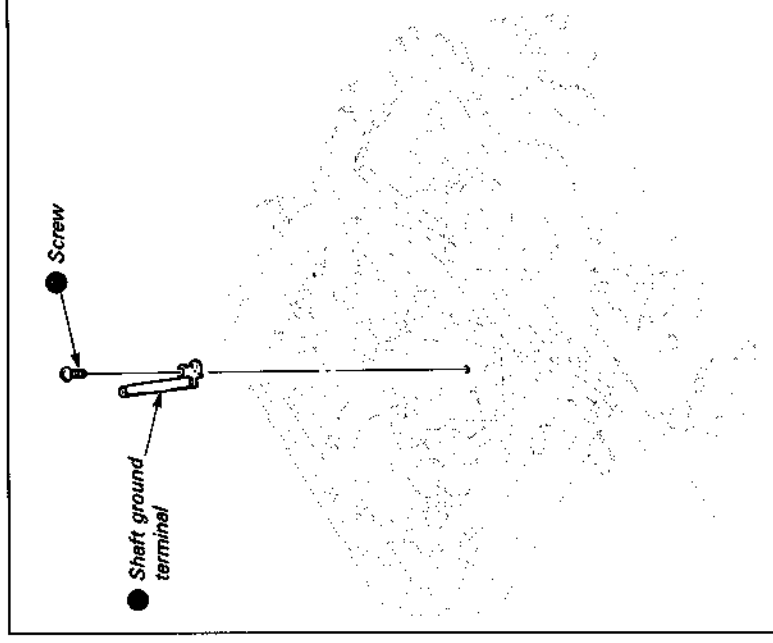

Fig. 7-50.
(See Fig. 7-50, 51)
- 3) Remove screw ● and the shaft ground terminal ●. (See Fig. 7-50.)